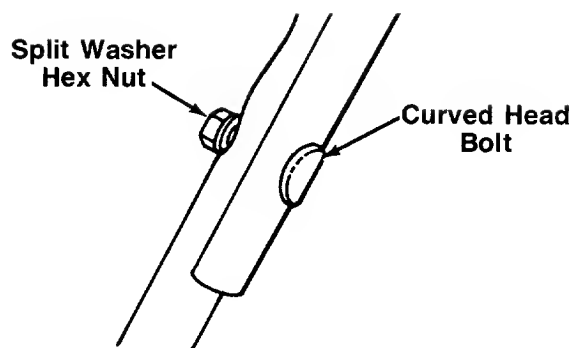

FIGURE 2.
- ← 2. Secure the left hand side of upper handle using the curved head bolt, split washer and hex nut as shown in figure 2.